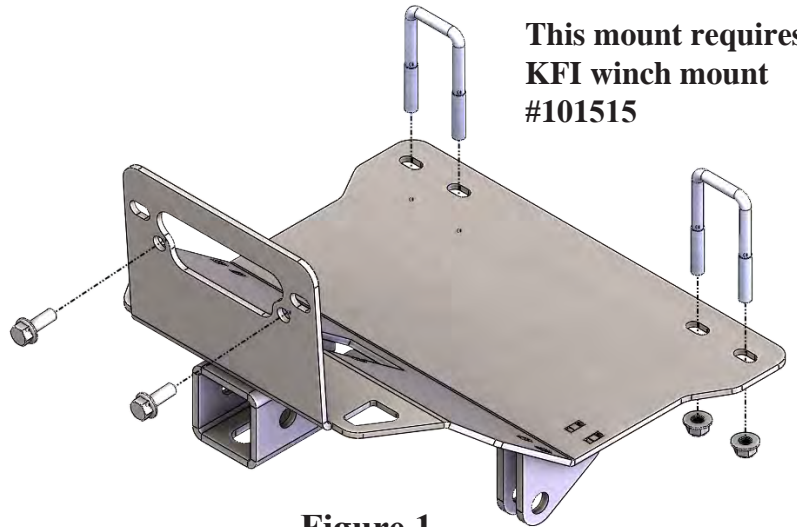

Figure 1
5. Using washers (3.4) as a spacer, place 3 washers between Plow Mount (1) and Skid Plate (2) at the two rear mounting holes of Plow Mount (1) as shown in **Figure 1**.
1. Remove the front portion of the skid plate on the machine by removing bolts (A & B) as shown in **Figure 1**. Set bolts aside as they will be reused.
"Figure 1"